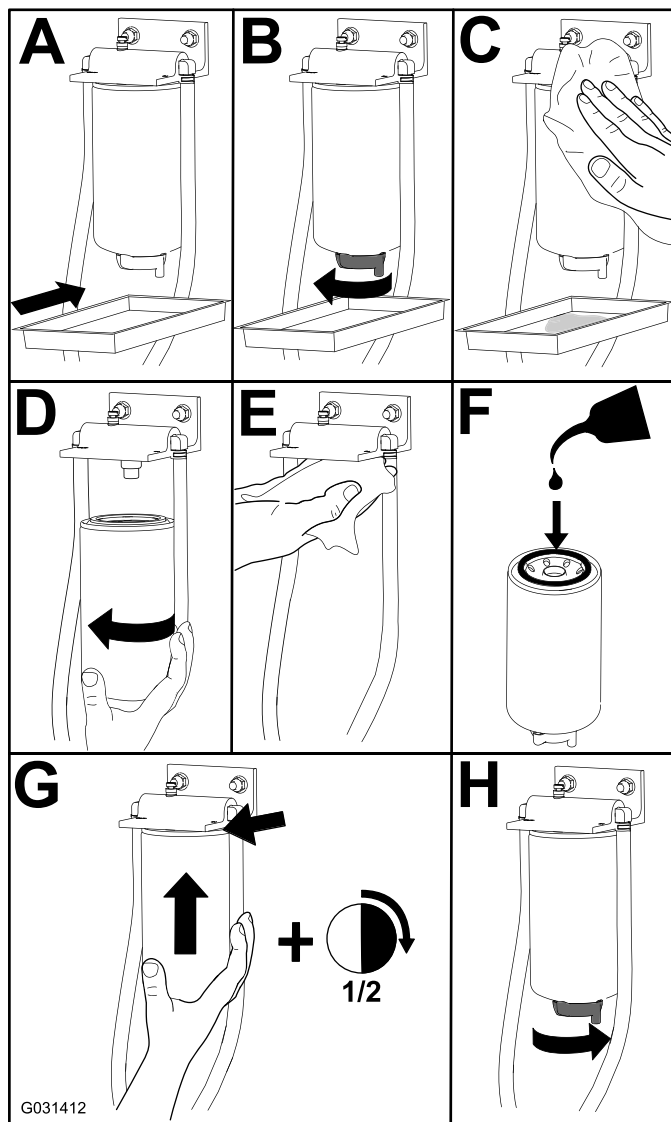

Figure 67
1. Replace the filter as shown in Figure 67.